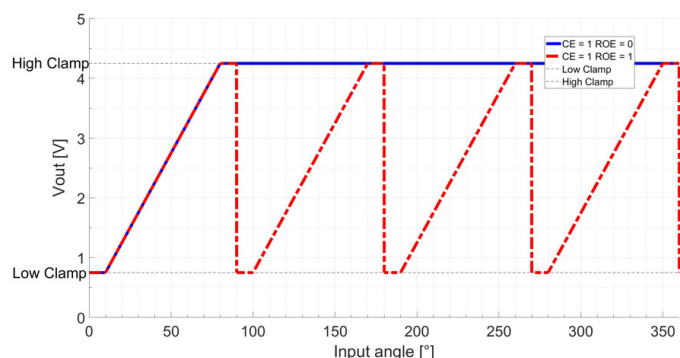
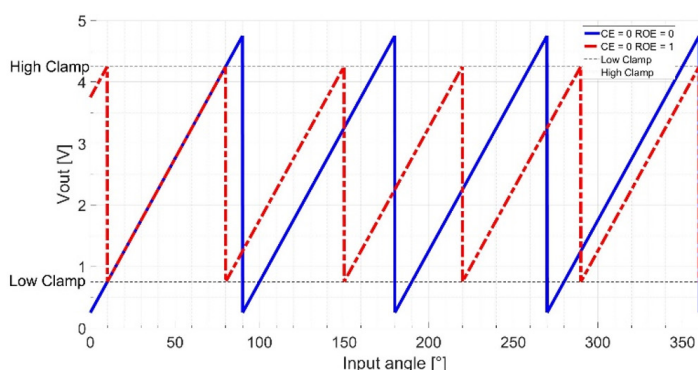

Figure 5: Clamping With and Without Rollover
Figure 6: No Clamping With and Without Rollover Enable
Rollover Enable (ROE) is a programmable setting which allows the output to return to a low state after reaching the high state (or vice versa). This can be done with or without a clamp. The Clamp Enable bit (CE) enables the HIGH/LOW_CLAMP to be adjusted and by default they are set to 5% and 95% of V_{CC} . The rollover and clamp enable (CE) bits are located in EEPROM 0x3C, bits 24 and 25 respectively. Refer to Table 4 for the various iterations of clamps and rollover. Figure 5 and Figure 6 compare the output with and without clamping/rollover.
Note that in Figure 6, there are more high to low clamp values than shown in Figure 5; this is due to the LOW_CLAMP and HIGH_CLAMP. The settings used to create Figure 5 and Figure 6 were: